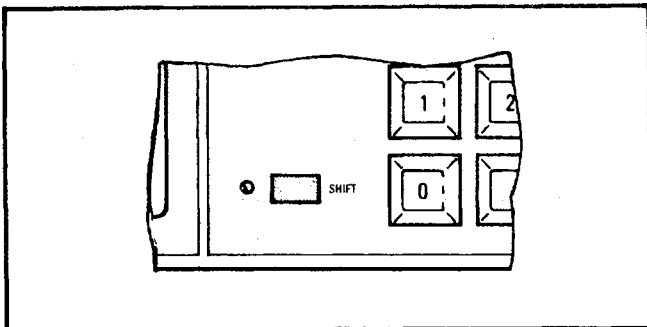

Figure 3-9. SHIFT Pushbutton
f. SHIFT Pushbutton (Figure 3-9). Provides additional functions, designated by blue lettering, for the pushbuttons described below. When SHIFT is pressed, the numeric displays and LED indicators will go out, except for the currently active SHIFT functions. Pressing SHIFT again returns the displays and indicators to their unshifted (normal) indications – no parameters are changed.